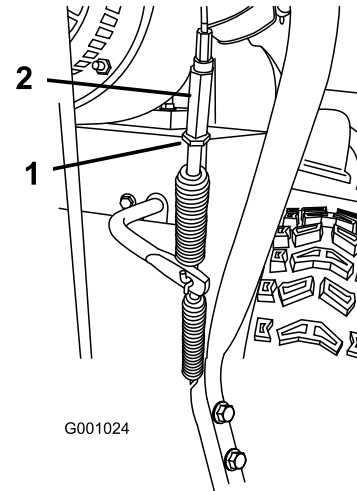

Figure 38
- Loosen the jam nut (Figure 38).
- Loosen or tighten the turnbuckle that adjusts the tension on the cable (Figure 38).